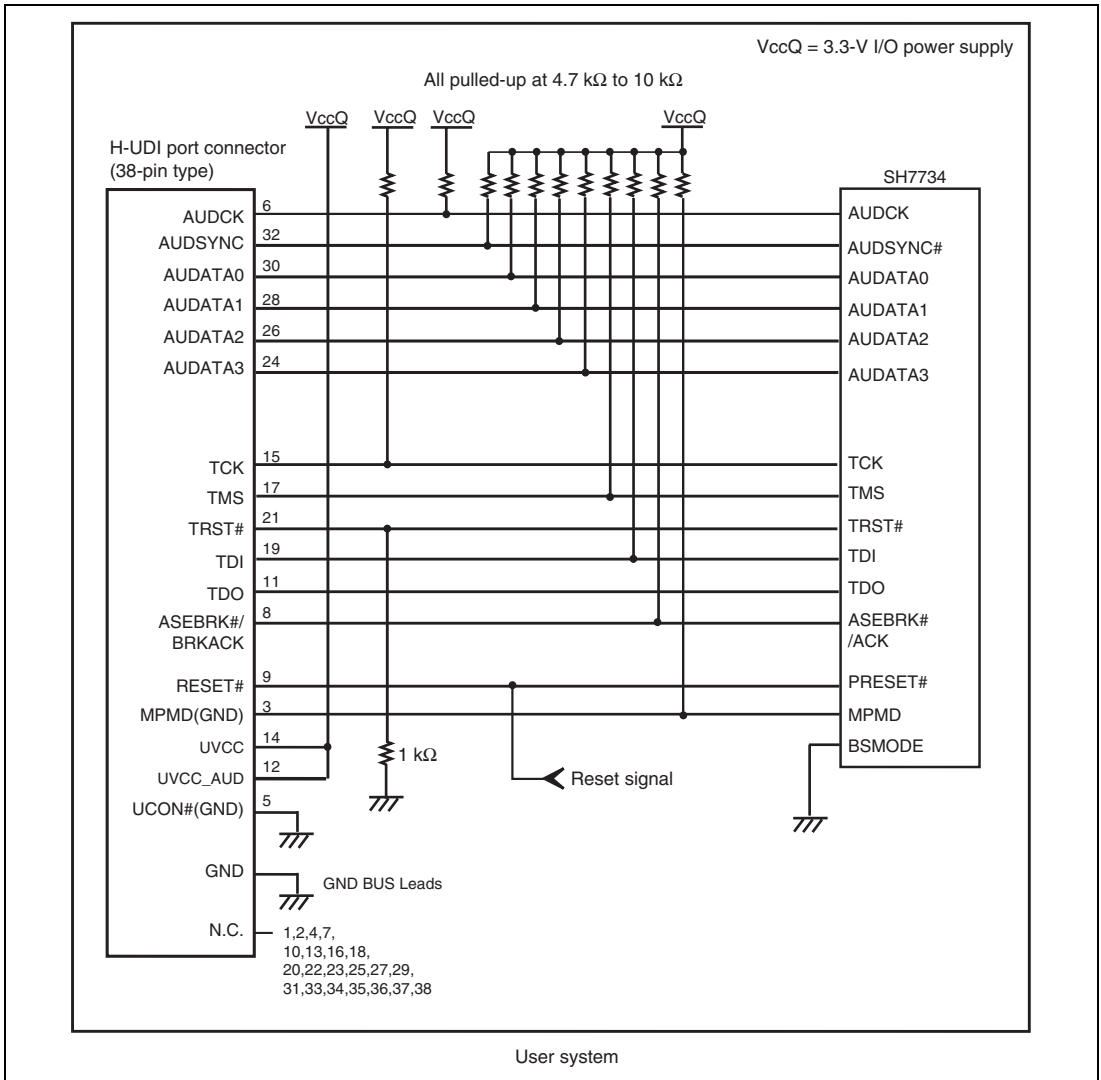

Figure 1.7 Recommended Circuit for Connection between the H-UDI Port Connector and MPU when the Emulator is in Use (38-Pin Type)
Figure 1.7 shows a recommended circuit for connection between the H-UDI and AUD port connectors (38 pins) and the MPU when the emulator is in use.
- (1) When the emulator is used: $MPMD = 0$
- (2) When the emulator is not used: $MPMD = 1$Figure 1.7 shows an example of circuits that allow the MPMD pin to be GND (0) whenever the emulator is connected by using the user system interface cable. When the MPMD pin is changed by switches, etc., ground pin 3. Do not connect this pin to the MPMD pin.
7. The resistance values shown in figure 1.7 are for reference.
When the circuit is connected as shown in figure 1.7, the switches of the emulator are set as SW2 = 1 and SW3 = 1. For details, refer to section 3.8, Setting the DIP Switches, in the SuperH™ Family E10A-USB Emulator User's Manual.